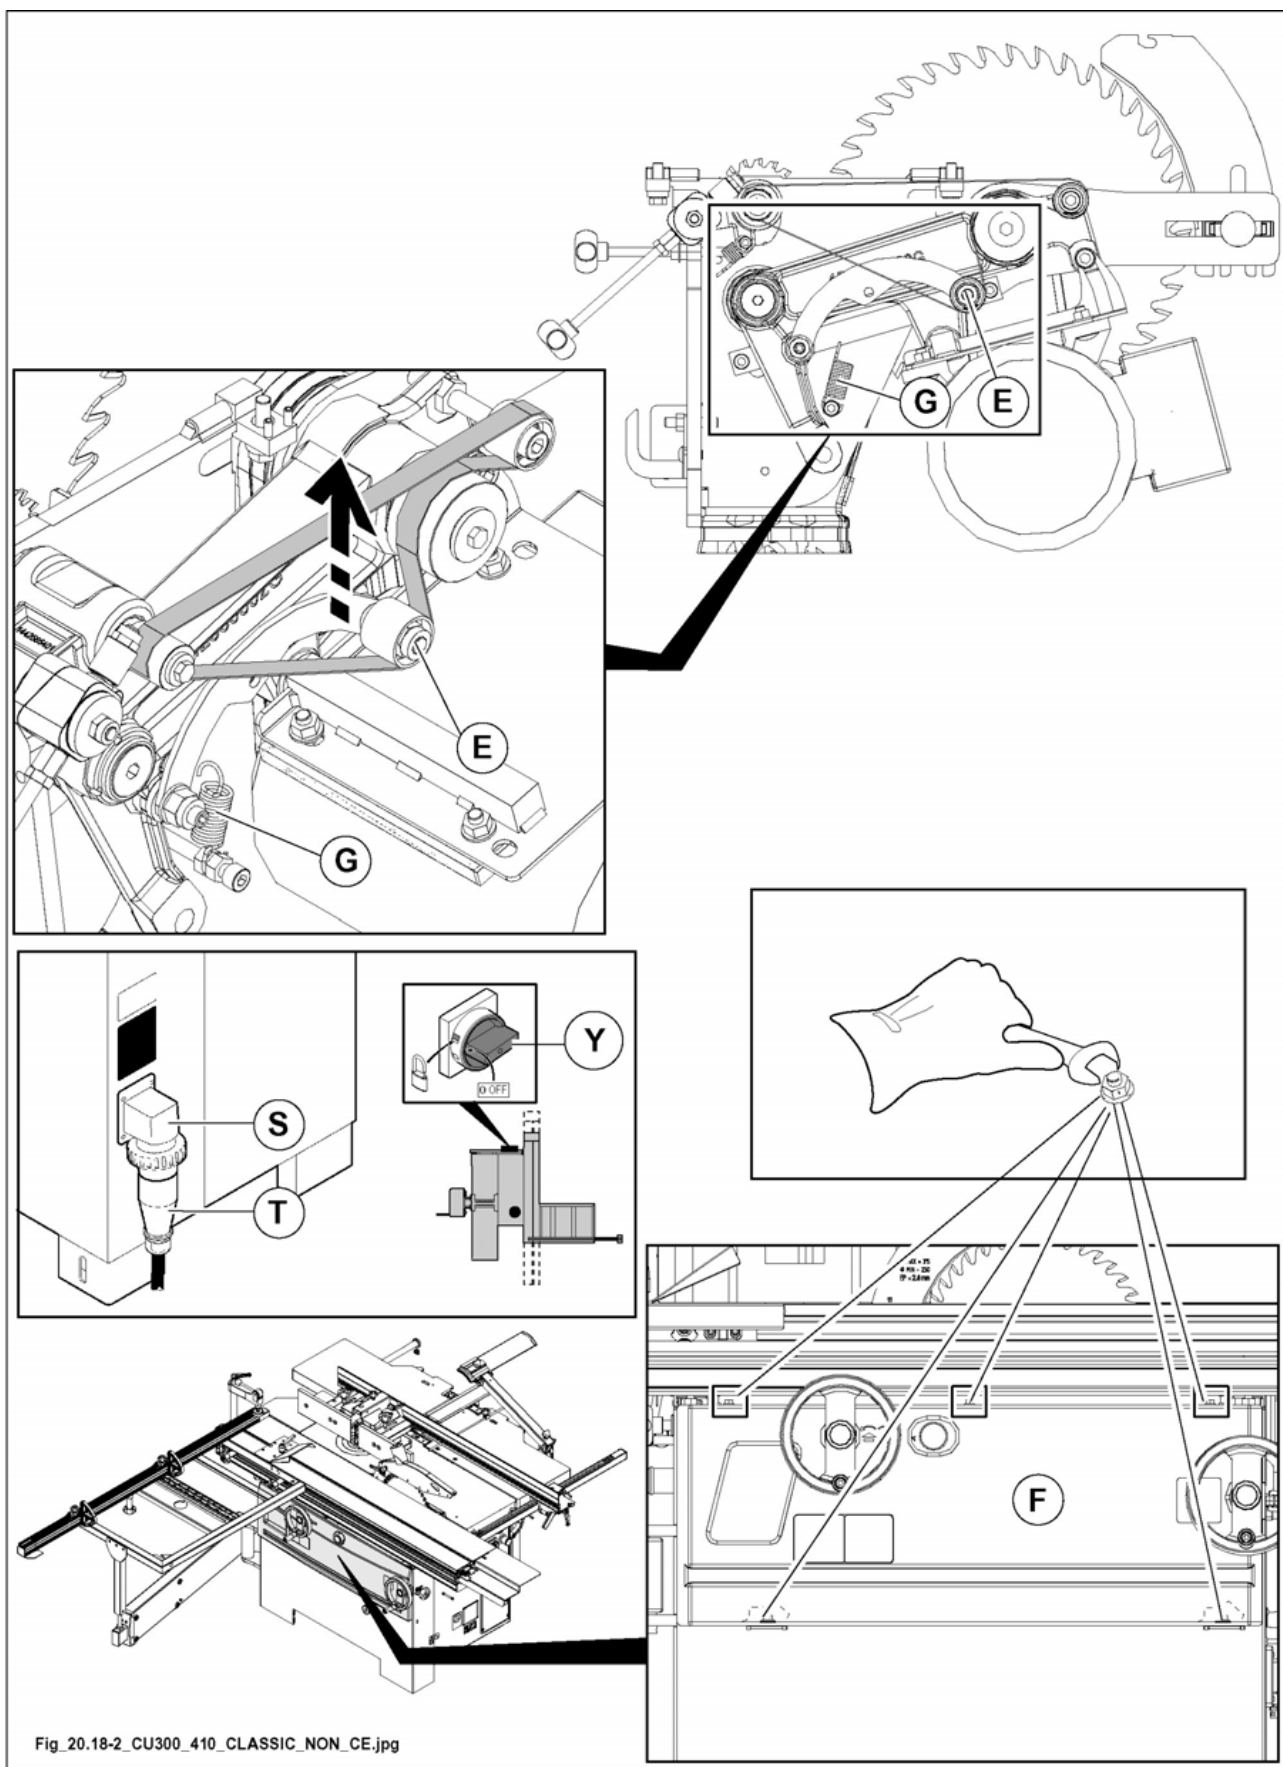

Fig. 20.18-2
U.S.A. and CANADA version: before carrying out maintenance operations, adjustments or to dismount any machine member turn main switch (Y fig. 20.18-2) to 0, lock it then indicate this with a sign.
- Disassemble the front guard (F fig. 20.18-2).
- Loosen the belt tensioner (E fig. 20.18-2) and take out the belt; fit the new belt in the same way and turn it manually, making sure it is centred on the pulleys.
- Fit the front guard (F fig. 20.18-2).
the correct engraver belt tension is assured by the spring (G fig. 20.18-2) and it does not require any adjustment.